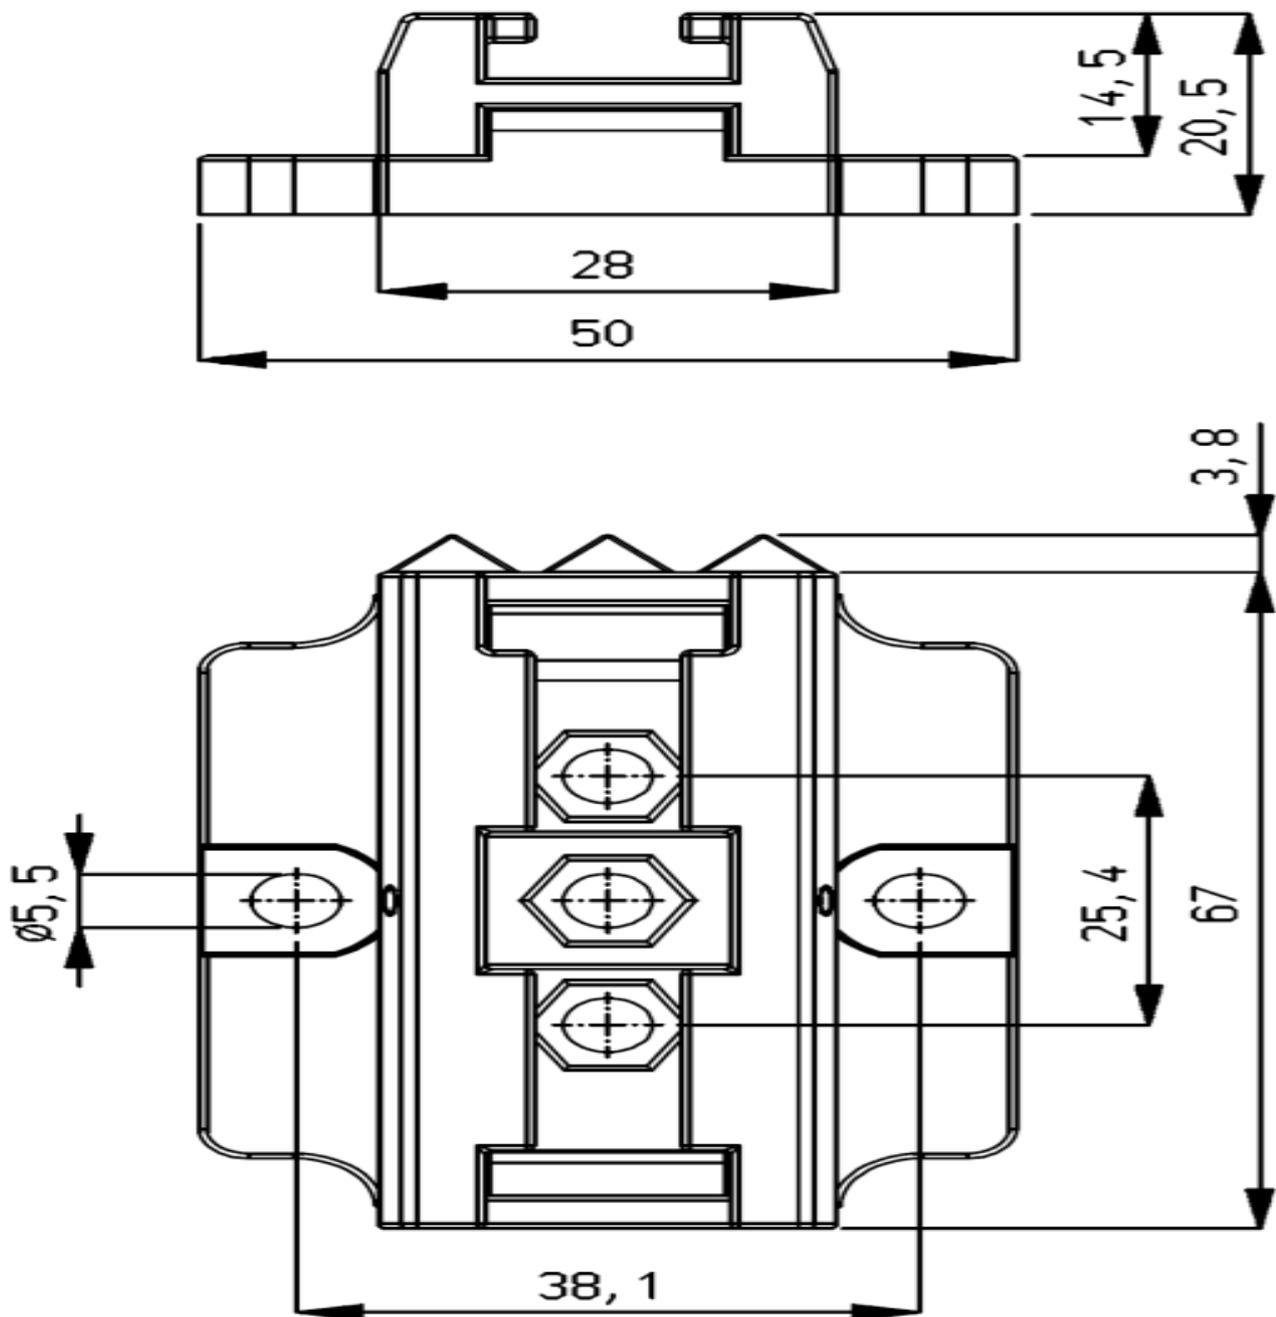

Figure 5: Fixing anti-static bar with mounting brackets
- Unscrew the adjustable screws (nr.6) from the brackets. (see figure 5).